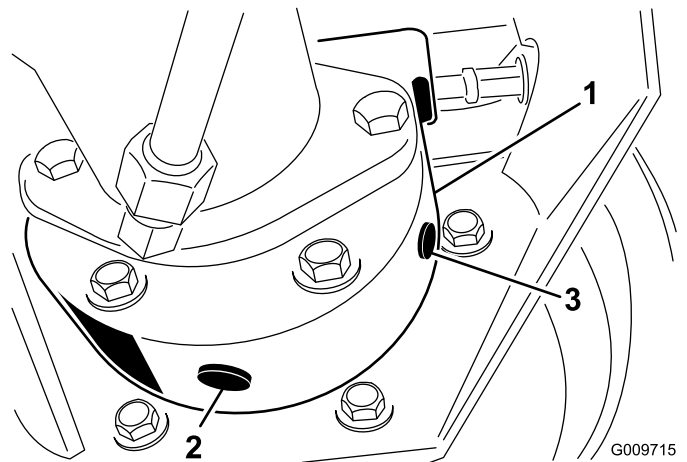

Figure 50
3. Place a drain pan under the brake housing, remove the drain plug, and allow the oil to drain (Figure 50).